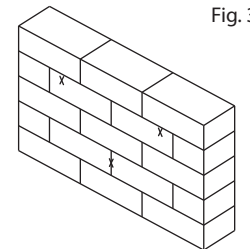

Fig. 3
- Place the wall plate against the wall in the desired location with the arrow pointing up and level it using the bubble level (N).
- While another person holds the wall plate in place, mark three locations on the wall for securing the mount. Mark two locations at the top of the wall plate and one location at the bottom of the wall plate (see Fig. 3).